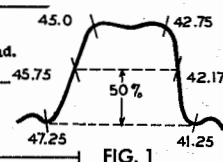

FIG. 1
| 3. Connect vertical input of a scope to point ④. Low side to ground. | Connect high side to ungrounded tube shield over Mixer-Osc. Low side to ground. | 44MC (10MC Sweep) | 41.25MC 42.17MC 42.75MC 45.0MC 45.75MC 47.25MC | | Adjust for maximum gain and symmetry of response with markers as shown in Figure 1. In order to obtain a proper response, it may be necessary to slightly retouch A3, A4, A5, A6, and Mixer Plate Coil for optimum response. |